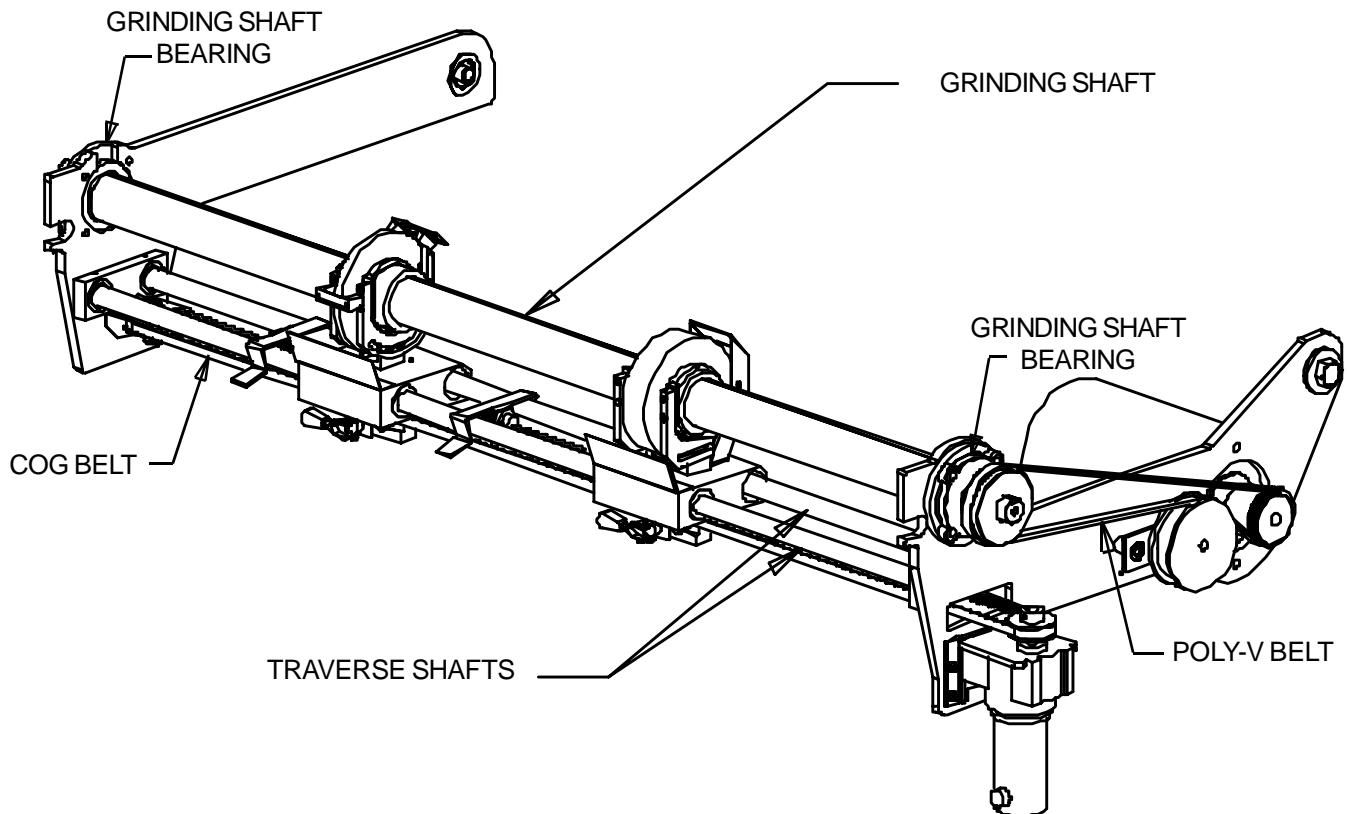

FIG. 9
5. Inspect the traverse cog belt for cracking and defects every three months. Remove any grit or dust that may affect the function of the belt. Adjust tension if necessary per procedures called out in the adjustment section. See FIG 9.
7. Lubricate grinding shaft bearings with one shot of grease once every 2 years. See FIG 9.